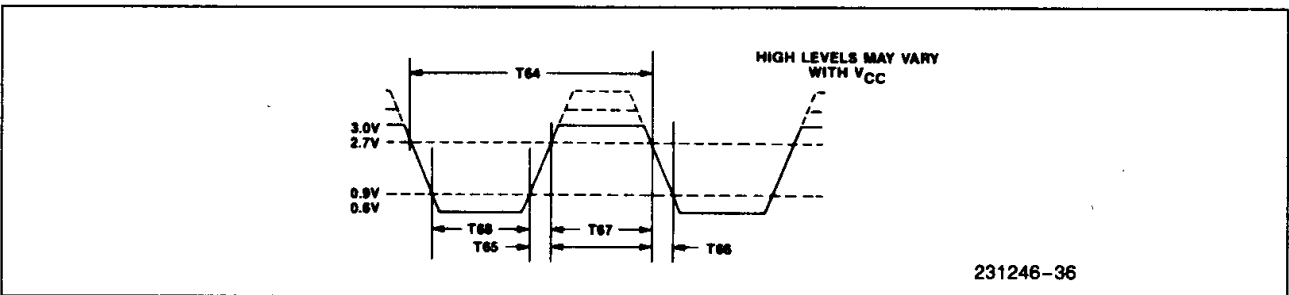

Figure 35. \overline{RxC} Input Voltage Levels for Timing Measurements *
15. 82C501 compatible levels, see Figure 35